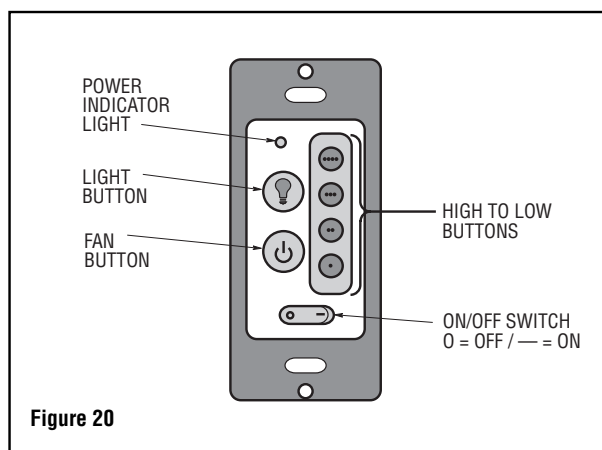

Figure 20
16. To turn the light on and off, press and release the LIGHT (Ⓢ) button. To set the light intensity, press and hold the LIGHT (Ⓢ) button. The light will turn on at the light intensity previously selected (Figure 20).